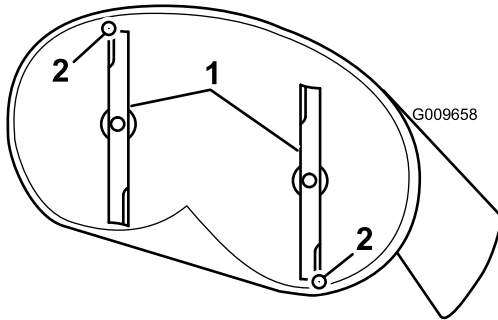
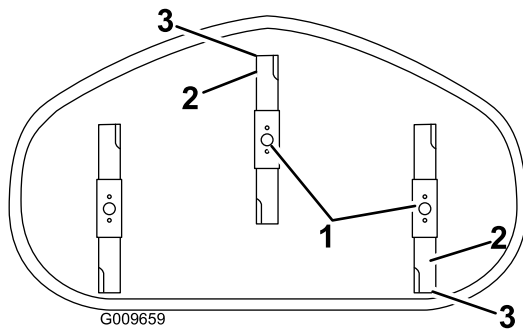

Figure 53
Figure 54
4. Carefully rotate the blades so that they are facing front to rear (Figure 53 and Figure 54).
5. Measure from the tip of the front blade to the flat surface, and the tip of the rear blade to the flat surface (Figure 53).
7. After adjustment, check the front-to-rear slope again, continue adjusting the nut until the front blade tip is 1.6 to 7.9 mm (1/16 to 5/16 inch) lower than the rear blade tip (Figure 53).